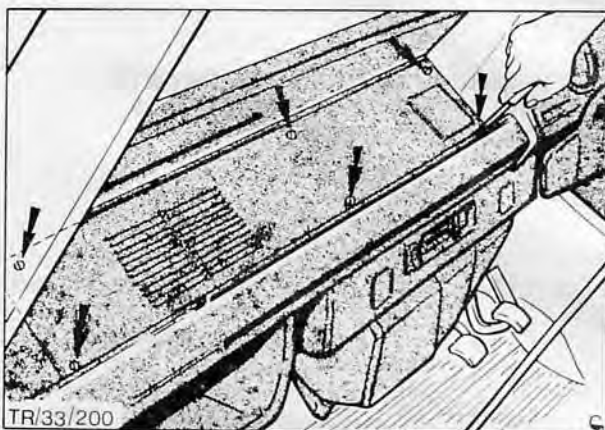

Fig. 7. Release facia trim panel by rotating six screws, (arrowed) through 90°
2. Remove facia trim panel by releasing six screw clips, Fig. 7.